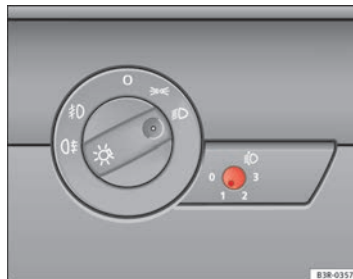

Fig. 89 Headlight range control
- Briefly press the knob  ⇒ page 120, fig. 89 to release it from its set position.